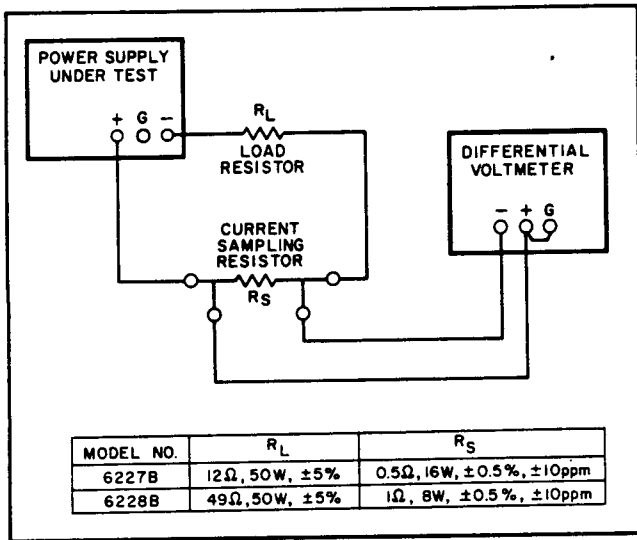

Figure 5-11. Constant Current Load Regulation Test Setup
- a. Connect test setup shown in Figure 5-11.
- Utilize test setup shown in Figure 5-11.